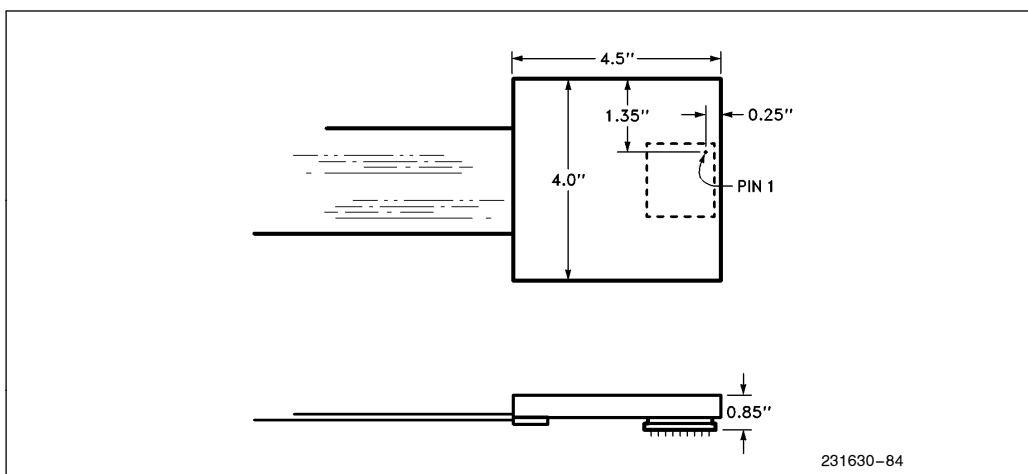

Figure 7-1. Processor Module Dimensions
**Intel386 DX location and orientation:** The ICE-Intel386 DX processor module, target-adaptor cable (which does not exist for the ICE-Intel386 DX 33 MHz emulator), and the isolation board used for extra electrical buffering of the emulator initially, require clearance as illustrated in Figures 7-1 and 7-2.